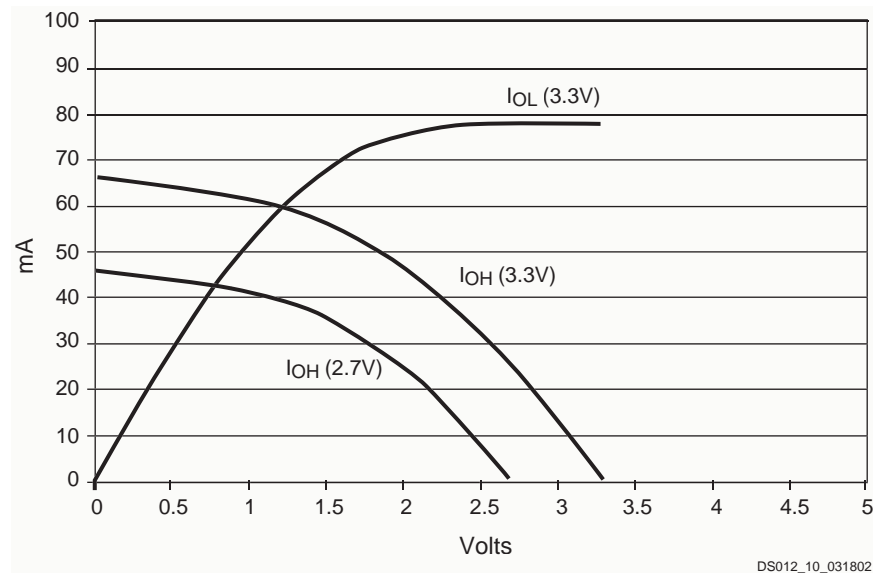

Figure 2: Typical I/V Curve for the XPLA3 Family, 3.3V, 25°C
2. See Figure 2 for output drive characteristics of the XPLA3 family.